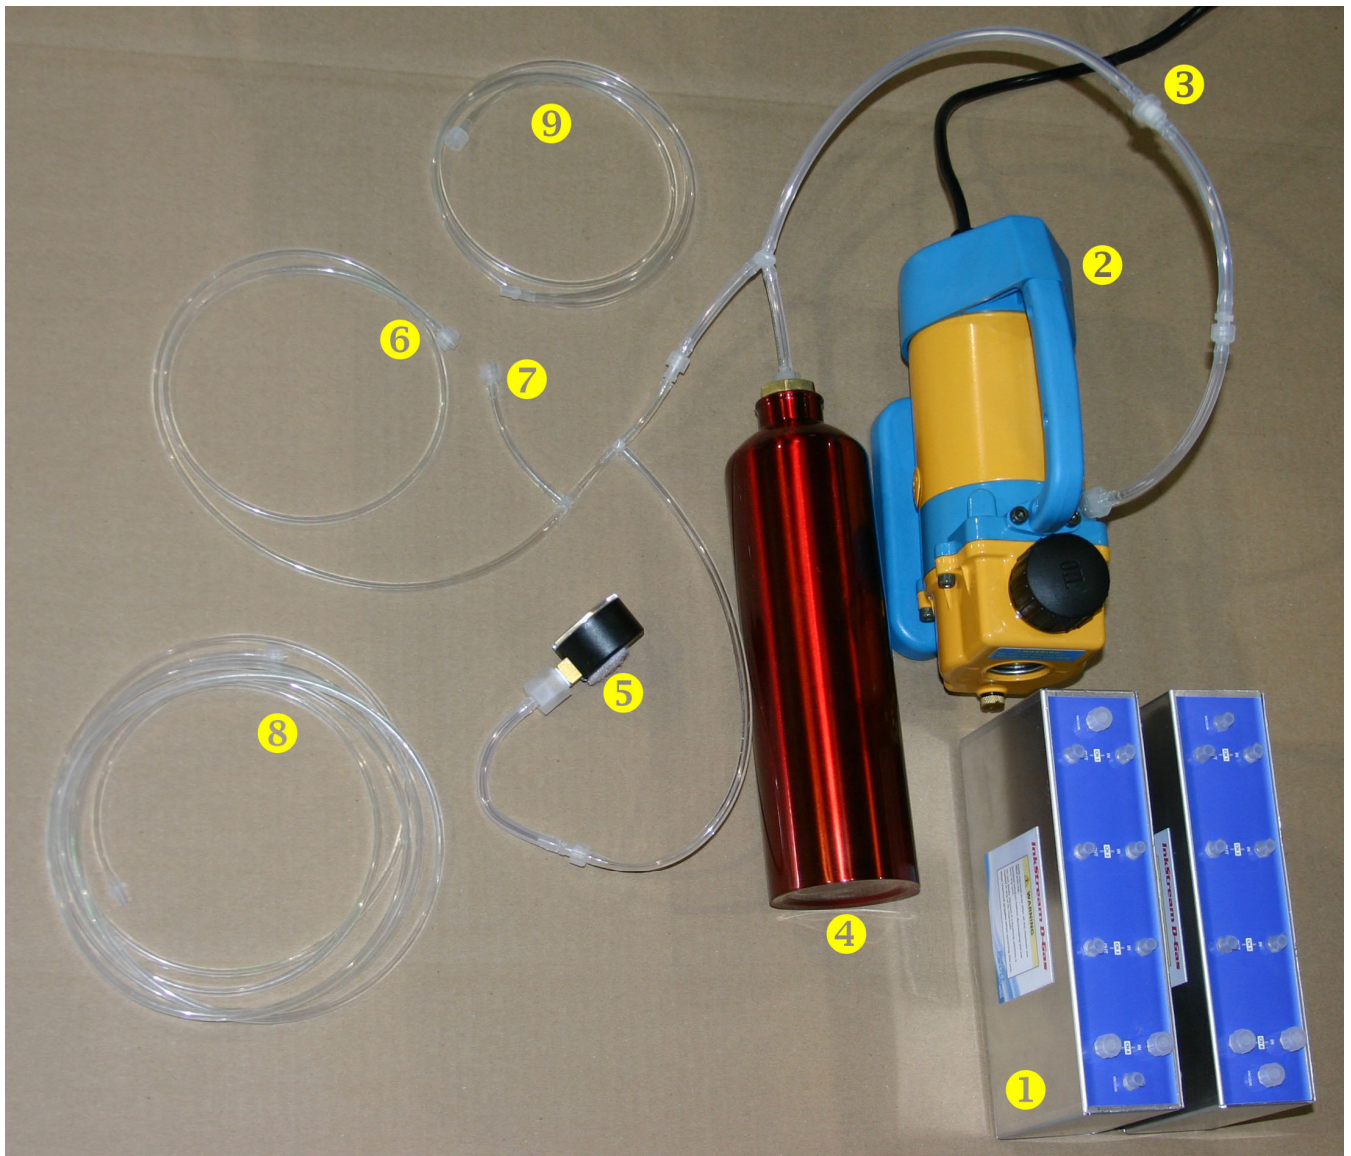

Figure 1. Components of the Degasser
1. Connect the components as shown on the Fig.1. Make sure all the Luer fittings are tightened.
7. Connect the Luer fitting of the air hose (#6 on Fig.1) to the "Vacuum" port of the degassing unit. Make sure the other vacuum port is capped.
9. Connect the extension hose (#8 on Fig.1) to the fitting 1 on Fig.1.